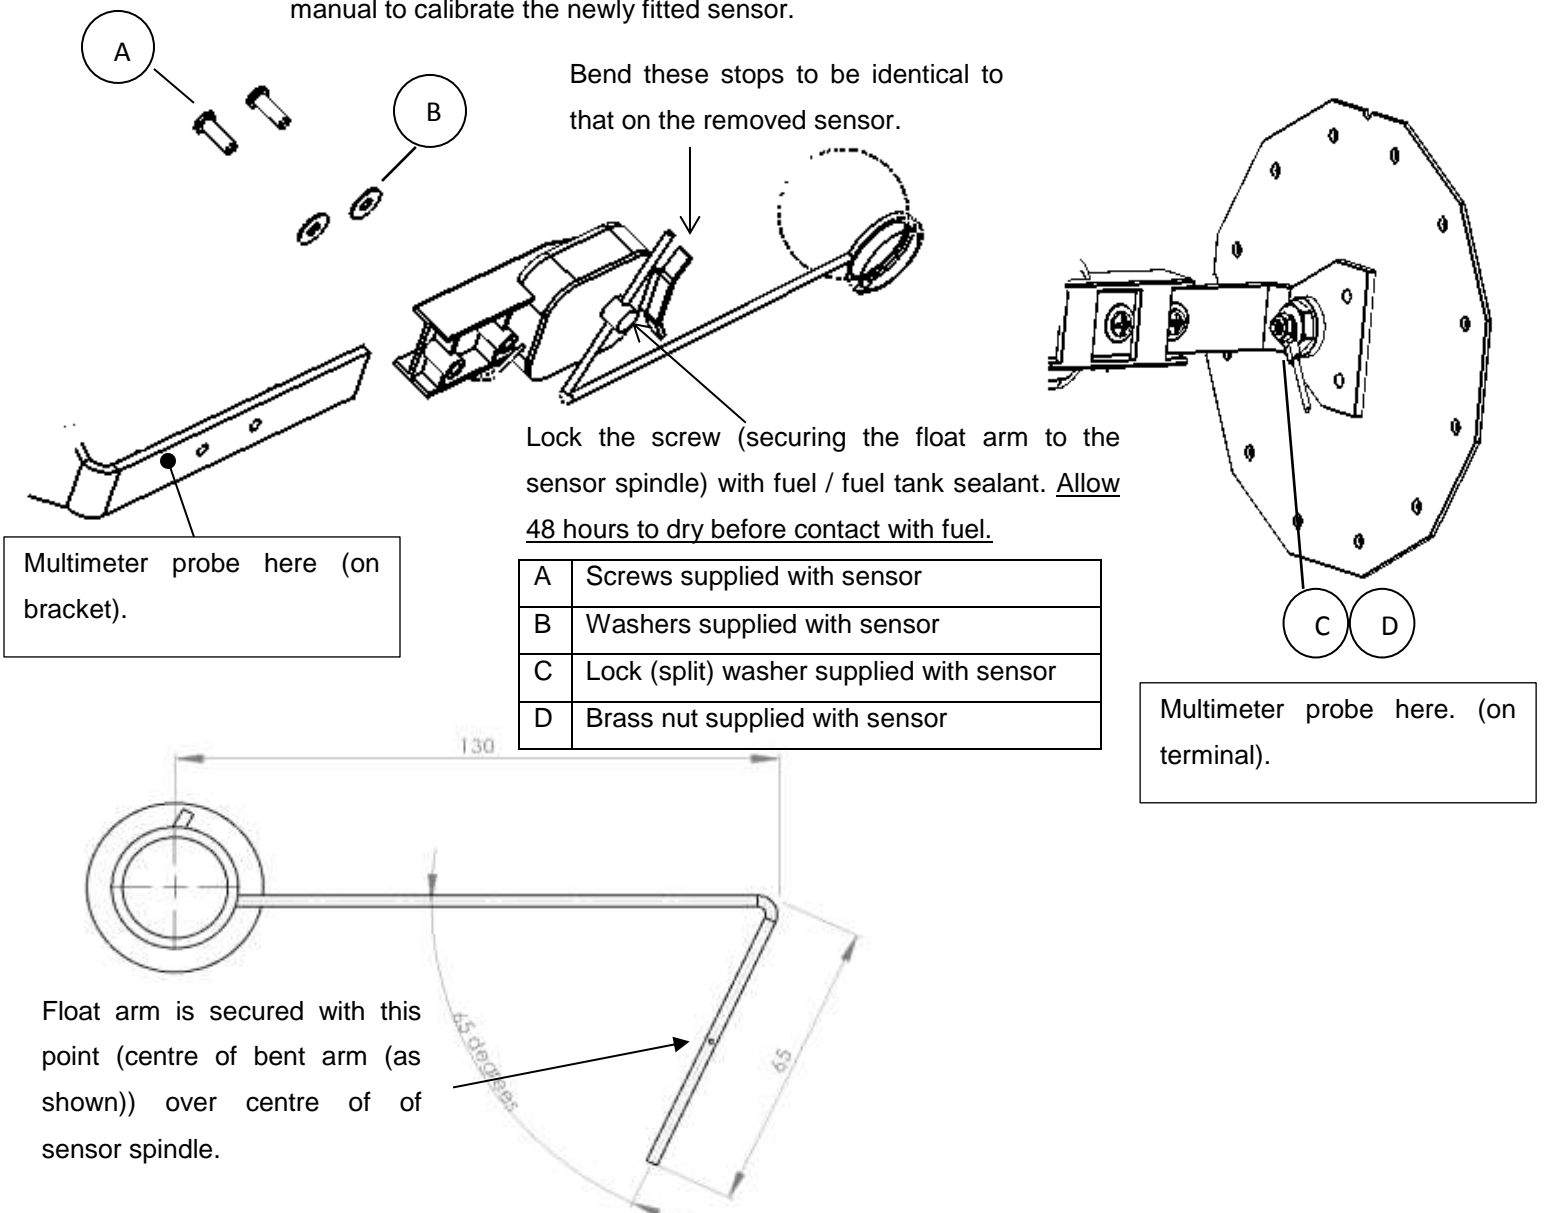

Figure 65: Fuel level sender assembly sensor replacement.
- Observe correct washer placement (refer to Figure 65).
- The sensor is fitted to the bracket with the spindle pointing away (in opposite direction) from the 90 degree bend / plate / part of the bracket attached to the hexagonal tank cover / sender assembly plate, i.e. spindle will face to rear when level sender assembly is installed in fuel tank. See Figure 65.
- (a) The float arm must be fitted to the new sensor with the same point (centre of bent part of arm) on the arm (as was over the centre of the spindle of the removed sensor) over the centre of the sensor spindle (refer to Figure 65). Use the marks made (during disassembly) on the float arm to assist in positioning the float arm before securing it to the sensor spindle.
- (b) Bend the float arm stops (refer to Figure 65) on the replacement sensor to be identical to that on the sensor which was removed.
- Wind the signal wire (1) tightly and securely around the bracket (2) and sensor (3) as shown below, without damaging or distorting / stretching it unnecessarily. Route the signal wire as shown and tie wrap (4) the bundle as shown. Cut the excess tie wrap strap off.
2. Use a multimeter set to measure resistance (set to the 200  $\Omega$  range setting, if available or higher ) to measure the range of the sensor, with the float arm first flush against one stop and then rotated to lie flush against the other stop (refer to Figure 65). The range measured should be between  $> 0 \Omega$  and  $< 200 \Omega$  (approximately 8  $\Omega$  to 192  $\Omega$ ). Measuring an open circuit with the float arm flush against any one of the stops indicates that the sensor wiper has moved of the sensor board pick-up and indicates that the stops are not correctly bent. Bend the stops to exactly match those of the sensor previously removed!